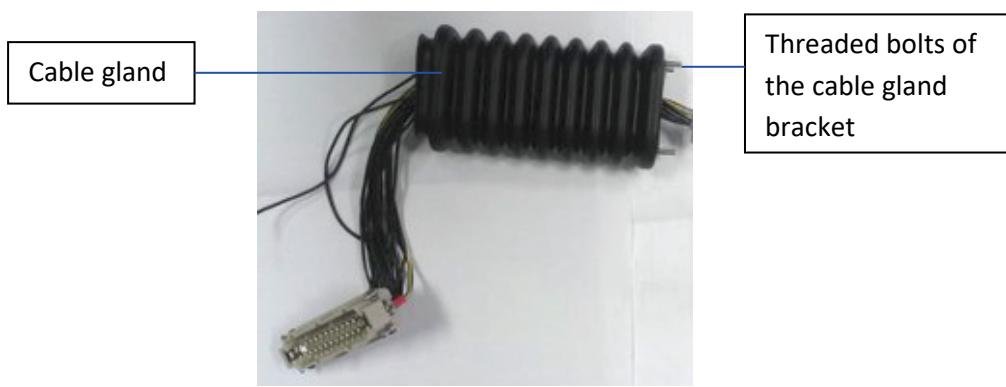
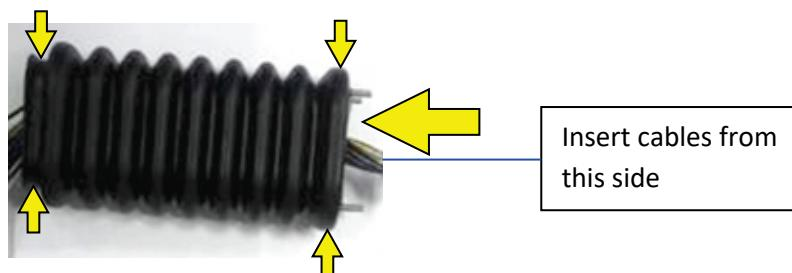

Fig. 52: Detached cable gland with bracket
Fig. 55: Insert cables from the thicker end into the cable gland
3. Pull the cable gland and the cable gland bracket out of the cabinet while the cables are still inserted (see Fig. 52).
- Thread the cables through the new cable gland. Start with the Harting connector. Only then thread the remaining cables through the cable gland. The cables must be inserted from the “thicker end” (the side ending with a ridge) into the cable gland so that they come out at the “thinner end” (neck between two ridges; see Fig. 55, Fig. 52).